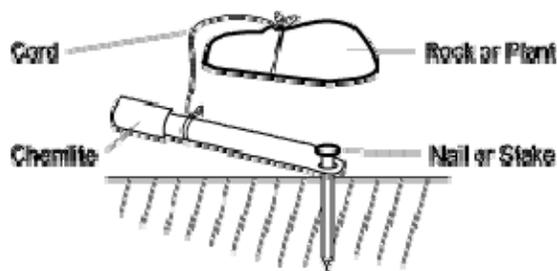

Figure 9-6. Detail of Doubly Secured Chemlite Marking.
- (1) Do not use unfiltered (white) strobe as it can be confused with muzzle flashes.
- (2) Passive IR is recommended for Marines on the ground. Glint tape on helmets, IR chemlites on stick leaders.
- (3) Obstacles can be marked with chemlites. Brief pilots as to meaning of markings.
- (4) IR chemlites are better than colored chemlites. If no IR chemlites are available, use two colored chemlites taped together at each position. For pilots on NVGs, red chemlites are more visible than blue or green. All chemlites need to be doubly secured to the deck to prevent scattering under rotor wash. *See Figure 9-6.*